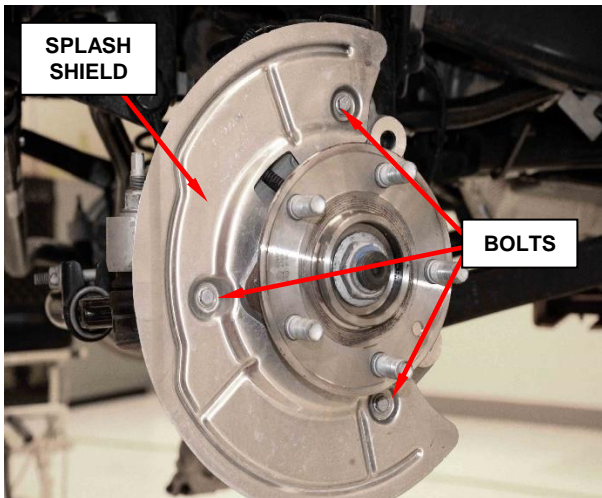

Figure 8 – Splash Shield
- 12. Remove the three brake rotor splash shield bolts and remove the splash shields (Figure 8).
29. Install the splash shields and tighten the bolts to 11N·m (8ft. lbs.) (93In lbs.) (Figure 8).